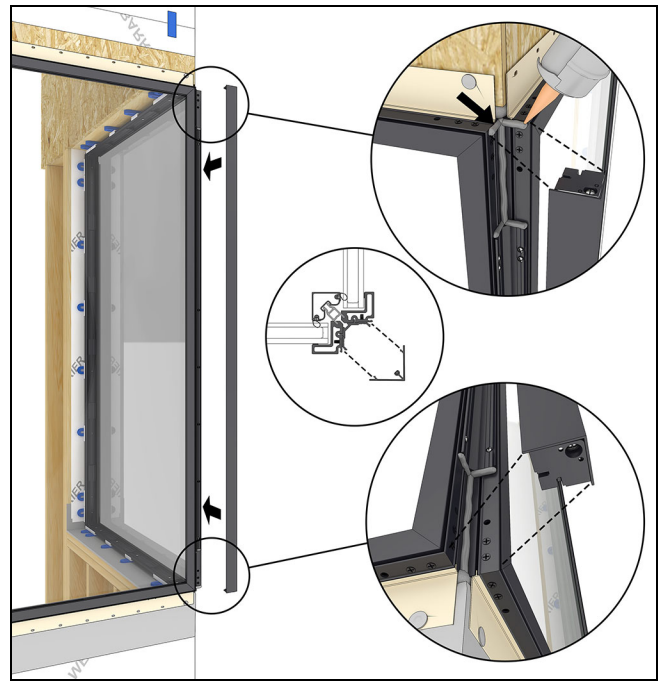

Figure 56
18. Apply a bead of sealant at the top edges of the corner, then install the exterior corner cover. Seat with a rubber mallet. See Figure 56 and Figure 57.